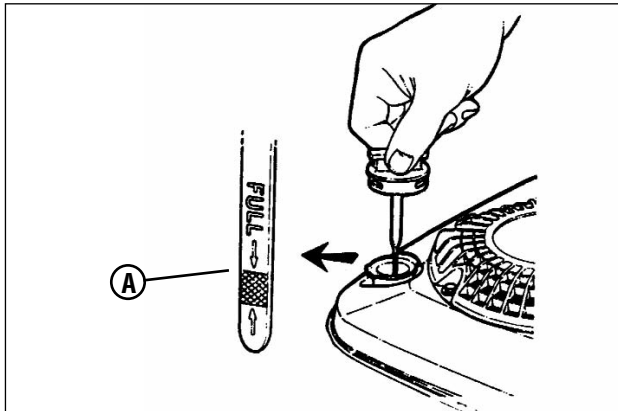

Figure 2: Checking engine oil
4. Check the engine oil and add oil as needed to bring the level up to the full mark (**A, Figure 2**). Refer to the Engine Owner's Manual for oil specifications.